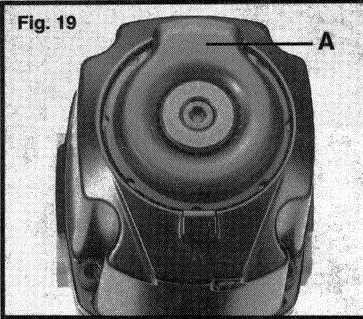

Fig. 19
6. Adjust directional exhaust deflector (A) Fig. 19, so that the exhaust air blast will be directed away from the operator. The exhaust deflector provides seven detented positions for directing the exhaust blast away from the operator. Grasp the deflector and rotate it to the desired position for the current application.